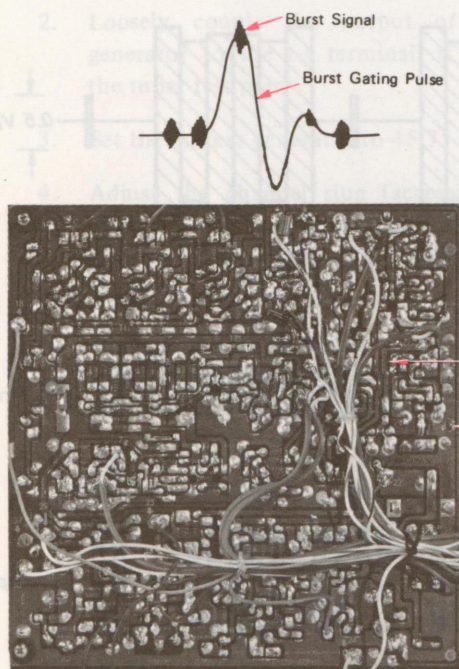

Fig. 4-5 Scope connections to check adjustment of the burst amplifier transformer
2. Connect the scope to the base of burst amplifier Q305 and check that the burst signal rides around atop the burst gate pulse as shown in Fig. 4-5.